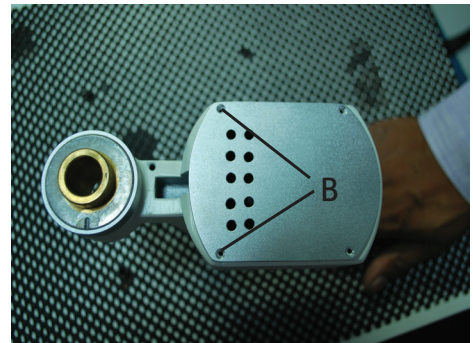

Figure -25
4. Remove the Lamp House Cover by unscrewing the Four Screws by using screwdriver shown as “B”. refer in Figure-25.